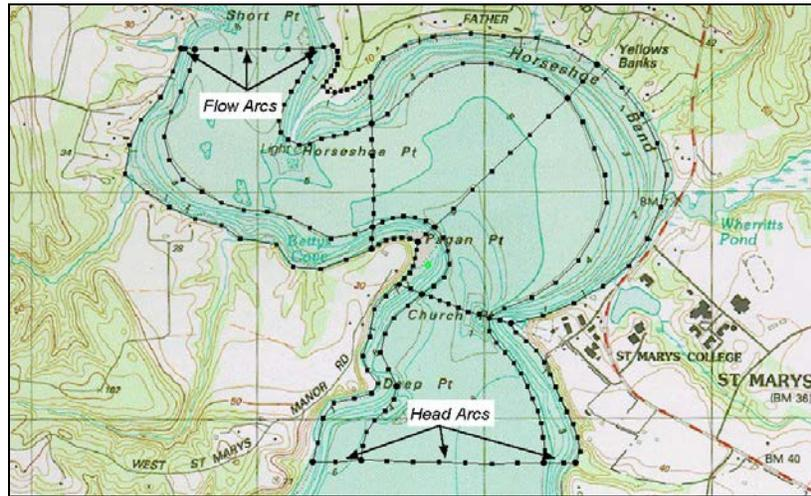

Figure 10 The arc groups to create.
2. Holding the *SHIFT* key, select the three arcs that make up the flow cross-section, labeled as *Flow Arcs* in Figure 10. (Alternatively, you can select all three arcs by dragging a box around them. This box must include the entire arc.)
4. Now, select the three arcs that make up the head cross-section, labeled as *Head Arcs* in Figure 10. (Make sure only these three arcs are selected by checking the *Status Bar* at the bottom right of the *Main Graphics Window*.)